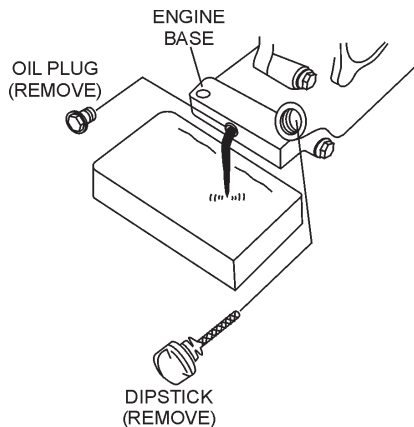

Figure 17. Engine Oil Plug
3. When changing the engine oil, the old oil can be drained by removing the oil filler cap, and unscrewing the engine oil drain plug located at the base of the engine (Figure 17).